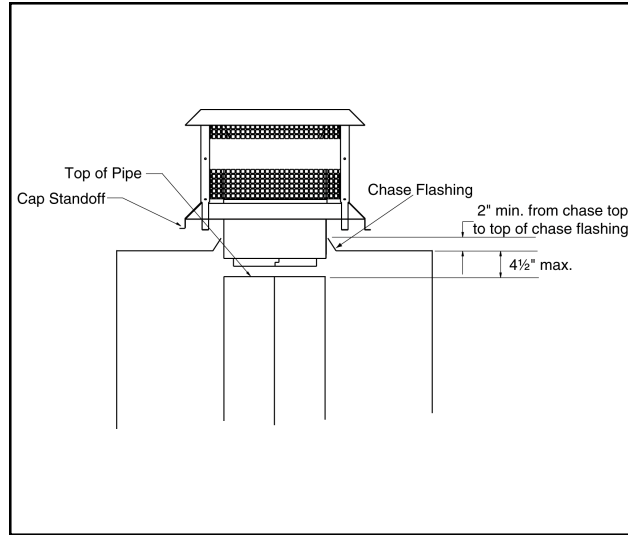

Figure 24 - Installing an ST1175 Square Termination Cap
- c. For installations utilizing an ST1175 square termination cap the last chimney section must not be more than 4½" below the chase top. See Figure 24.
These three factors work together as a system to create the flue draft. Increasing or decreasing any one of them will affect the other two and thus change the amount of draft in the entire system. See Figure 24.